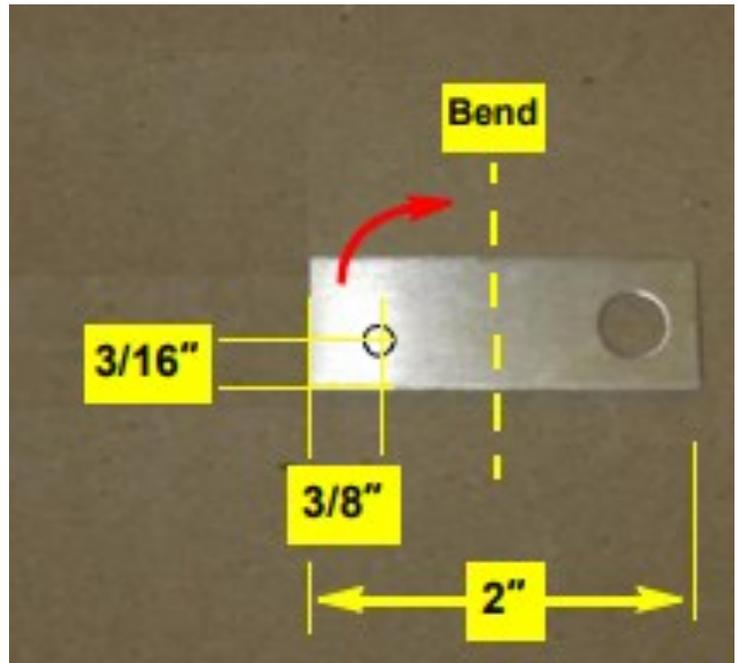

Figure 6
Cut the switch bracket in half (into 2" lengths). Discard the end without the pre-drilled switch hole. Drill a 1/8" pilot hole in the opposite end from the switch hole, 3/8" from the cut end and 3/16" from the right edge. Put a 90° bend halfway along the bracket so that the new hole remains on the right on the internal bend side Figure 6.
Attach the eDriveM1 steering ECU to the bracket using included hardware (item 2) ECU shown in Figure 6 is installed with logo facing up and connector pointing right.